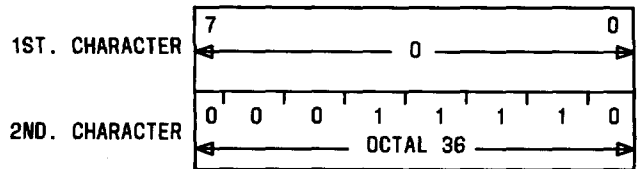

Fig. 3—End-of-Block Sequence
2.06 The EOB sequence (Fig. 3) consists of two bytes that designates the end of the data block. The first byte is all zeros and the second byte contains an octal 36. The EOB sequence, when printed at the I/O terminal, appears as octal word 017000 for an even number of bytes in a data block. For a data block that consists of an odd number of bytes, the first byte (all zeros) of the EOB sequence and the preceding byte form an octal word. When printed, this octal word would appear in the form of 000aXX (where a = 0, 1, 2, or 3). Here 000 is the first byte of the EOB sequence. The second byte of the EOB sequence along with the first byte of the CRC data form the next octal word. When printed, this word would be of the form of XXXb36 (where b = 0 or 4). In this word b36 represents the second byte of the EOB sequence. The designation b includes the two most significant bits of the second byte of the EOB sequence and the initial bit of the first CRC byte. This particular byte sequence